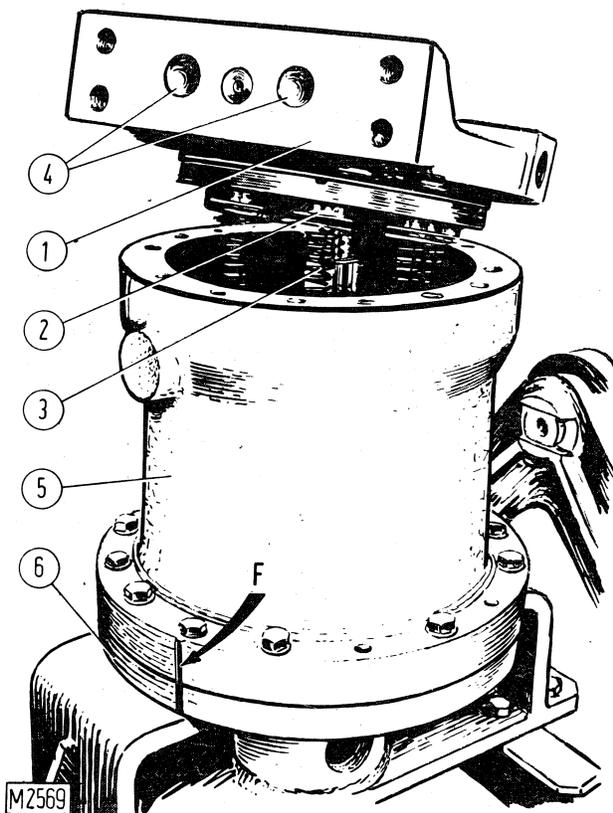
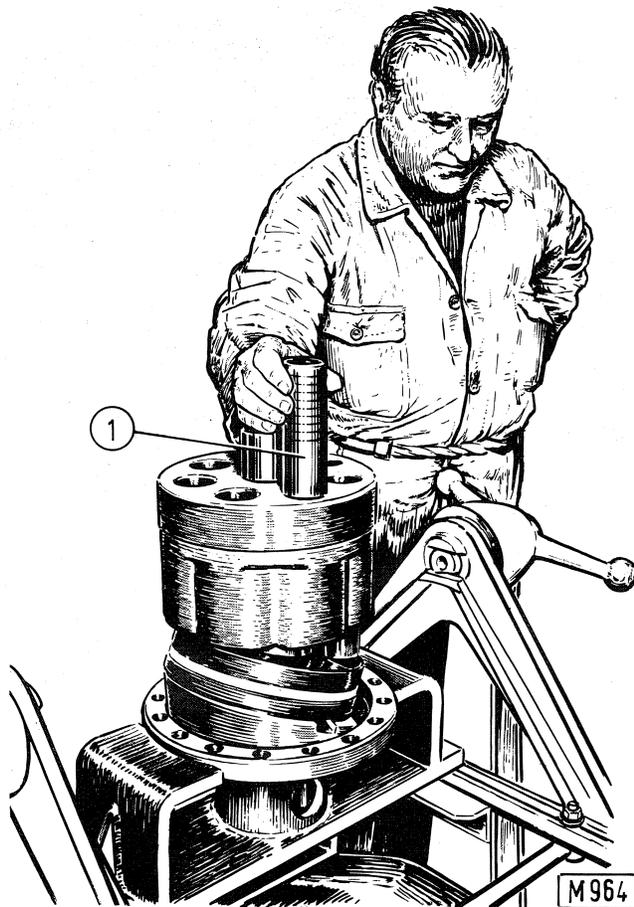

Fig. 2-3 - View of rear end plate (1) and timing plate (2).
Fig. 2-5 - Removal-installation of pistons.
- remove springs (3, fig. 2-3) and pistons (1, fig. 2-5) providing some identification for both pistons and cylinder block for correct reassembly;
- install rear end plate (1, fig. 2-3) so that the vertical line equally distant from the feed and drain oil ports (4) is in line with the TDC marks (F) stamped on housing (5) and on front end plate (6). Before removing the press, tighten cap-screws (C₂, fig. 2-1) to the specified torque;
- remove the press and install spacer (12);